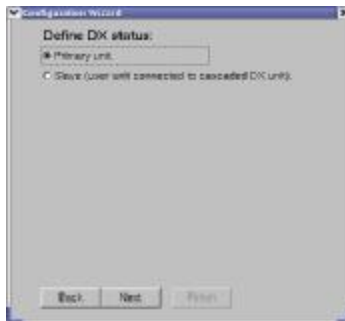

Figure 20 Define DX status box
4. Click **Next**. The Define DX status box appears. See Figure 20.
10. Click **Next**. The Define DX status box appears. See Figure 20.